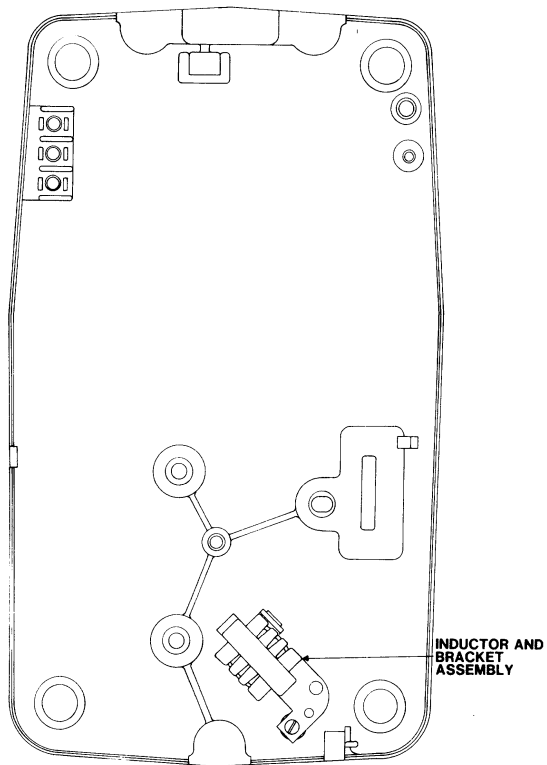

Figure 3. Mounting Inductor in Type 85E Telephone.
- (a) Mount the inductor assembly as shown in Figure 3. Secure it to the telephone base with an HD-765619-PP04 thread-forming screw.
- (1) BLK lead to terminal 21.
- (2) RED lead — tape and store.
- (3) SL lead to terminal 9.